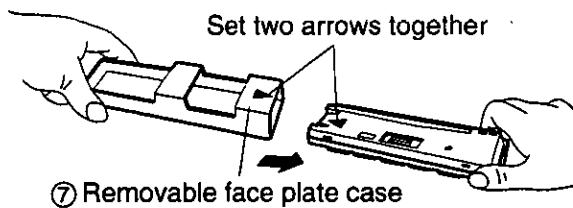

Fig. 3
- ④ As shown in Fig. 3, insert the removable face plate with the arrow pointing toward the removable face plate case ⑦ until you hear a "click". Keep the removable face plate in the case. Then, you can bring the plate safety.